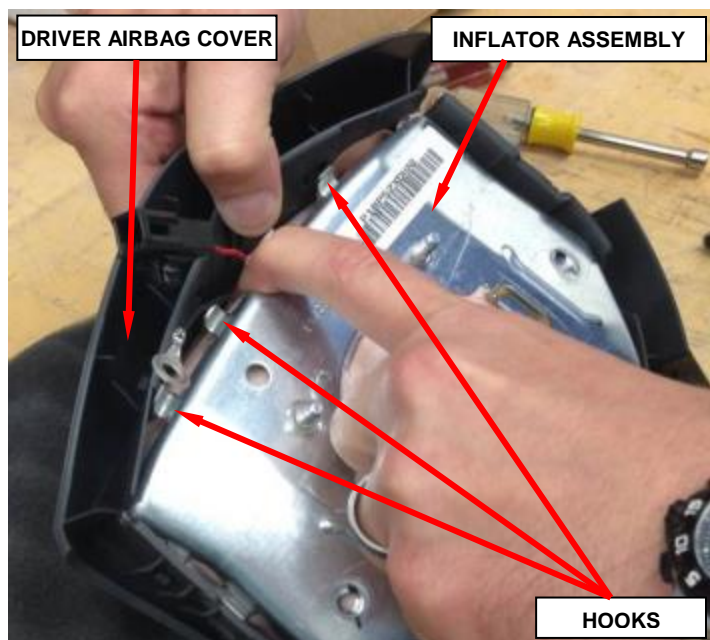

Figure 8 – Inflator Assembly to Driver Airbag Cover
14. Gently pull the inflator assembly up slowly making sure that the hooks are clear from the windows on all sides (Figure 8).